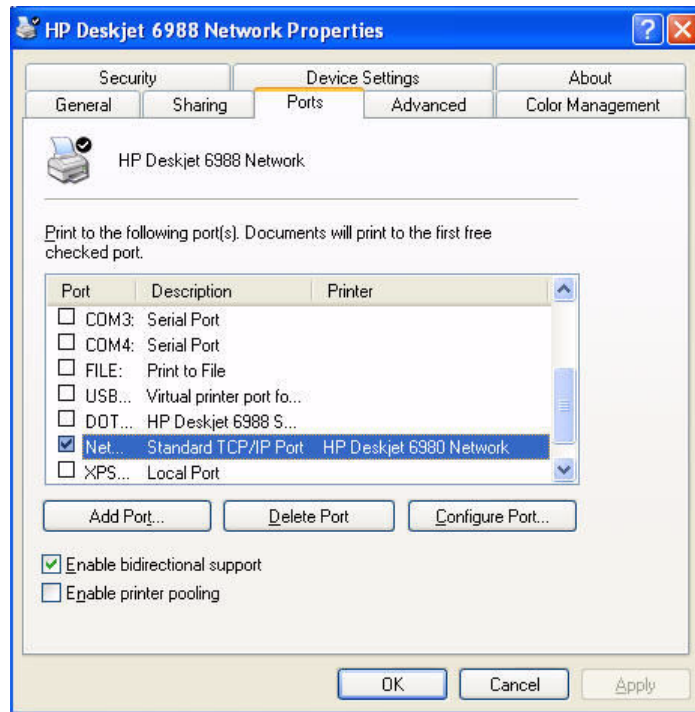
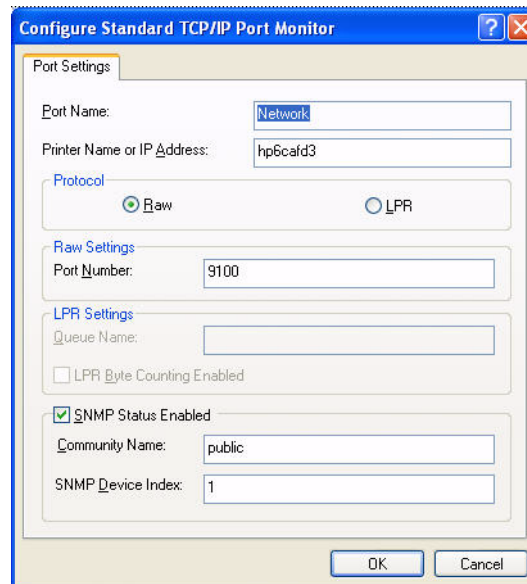

Figure 3 HP Deskjet 6988 Network Properties – Ports Tab
Figure 4 Configure Standard TCP/IP Port Dialog – Old Hostname
- To update the **Hostname** on the ATLAS, right-click on the **HP Deskjet 6988 Network** printer icon, and then select **Properties**. Click on the **Ports** tab as shown in Figure 3.
- Verify that **Network – Standard TCP/IP Port** is selected (Figure 3), and then select **Configure Port** (Figure 4).